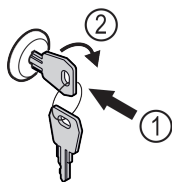

Fig. 122
- ▶ Insert the key. *Fig. 122 (1)*
- ▶ Turn the key clockwise by 90°. *Fig. 122 (2)*